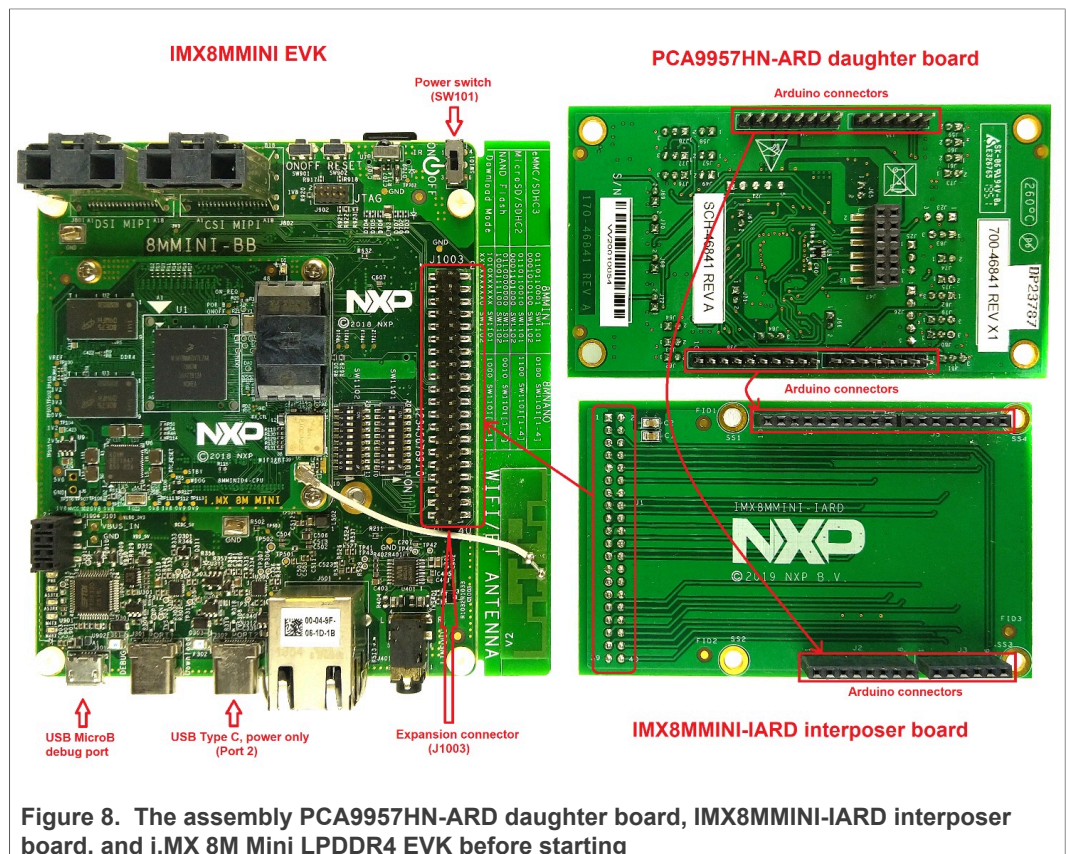

Figure 8. The assembly PCA9957HN-ARD daughter board, IMX8MMINI-IARD interposer board, and i.MX 8M Mini LPDDR4 EVK before starting
Figure 8 shows how these three boards are connected. This configuration consists of:
To power-up and operate the setup, the USB-C cable for power must be connected to PORT 2 of the EVK board. The power switch SW101 on the EVK board must be set to the ON position to power-up the setup. Data communication is achieved by routing a USB Micro-B cable from a USB port on the PC to the debug port (J901) on the EVK. Attach the daughter board by plugging the PCA9957HN-ARD board into the Arduino connector of the IMX8MMINI-IARD interposer and then plugging the IMX8MMINI-IARD interposer into the expansion connector (J1003) located on the i.MX8MMINI EVK board. (See Figure 8 for the location of all referenced connectors and switches.)
2. Attach IMX8MMINI-IARD connector J1 (located on the bottom of the board) into J1003 expansion board located on the top side of i.MX 8M Mini LPDDR4 EVK (see Figure 8).